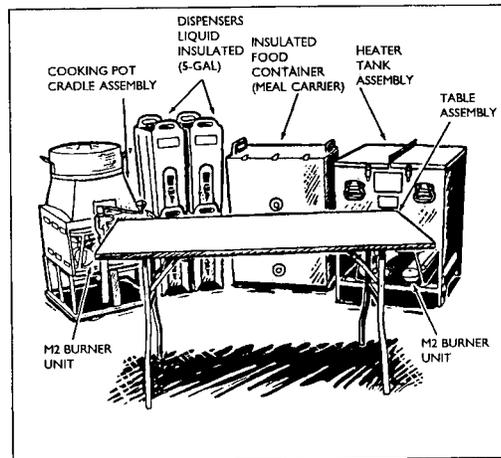

Figure 3-8. KCLFF layout for operation
- a. Unpack the major components of the KCLFF and locate them in a reasonably level and cleared area. See Figure 3-8.
a. Unpacked the major components of the KCLFF and locate them in a reasonably level and cleared area. See Figure 3-8.